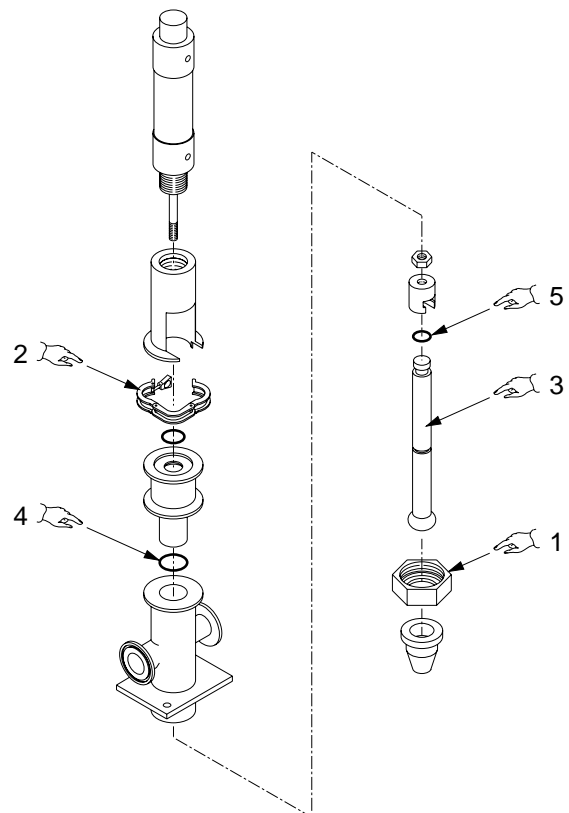

Fig.7.2
- by unscrewing the bottom ring-nut (*Pos.1, Fig.7.2*);
- opening the joining clamp between the lower and upper parts (*Pos.2, Fig.7.2*);
- extracting the doser piston shaft (*Pos.3, Fig.7.2*).
With the doser dismantled, check the efficiency of the O-rings (*Pos.4-5, Fig.7.2*) on the stem. If worn, ice-cream will leak from the top of the doser.